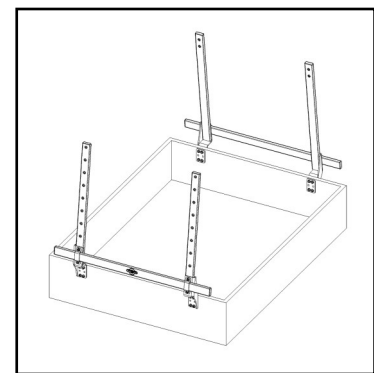

Fig. 4
- See fig. 4. Repeat steps 2 - 3 for the other side of the UTV bed.